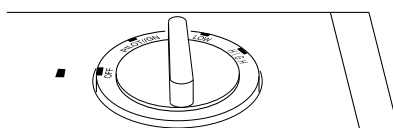

Figure 17 - Control Knob In The OFF Position (FB-10BA Shown)
3. Press in and turn control knob clockwise ↻ to the OFF position (see Figure 17).
4. Wait five (5) minutes to clear out any gas. Then smell for gas, including near the floor. If you smell gas, **STOP!** Follow "B" in the safety information, column 1. If you don't smell gas, go to the next step.
5. Press in control knob and turn counterclockwise ↺ to the PILOT/IGN position. Keep control knob pressed in for five (5) seconds.